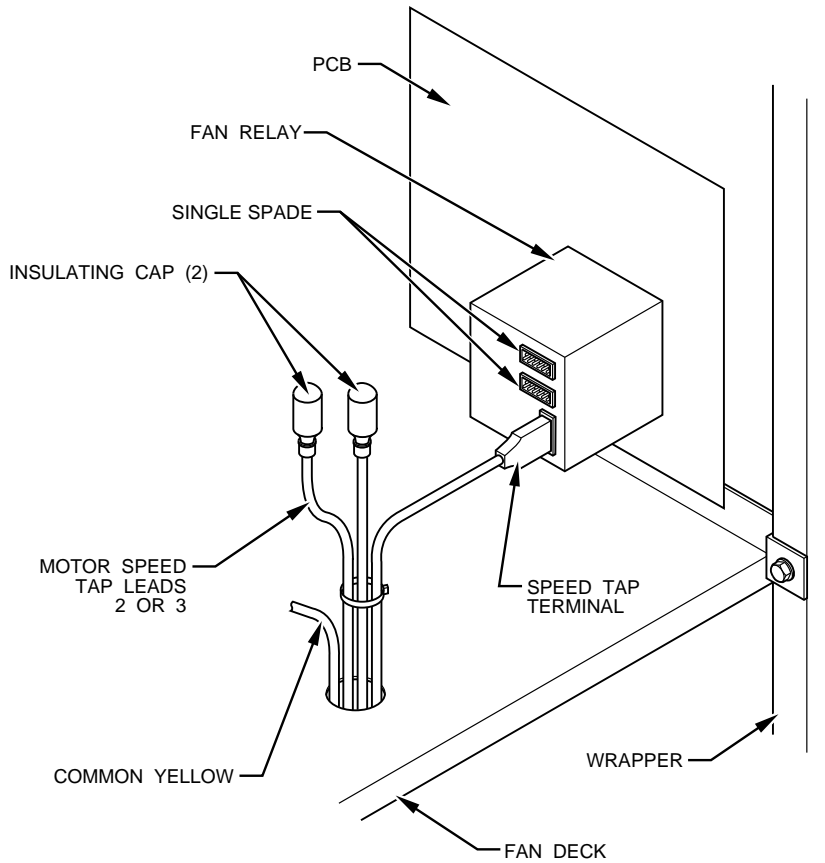

Fig. 6—Motor Speed Tap and Fan Relay
1. Speed tap selection is done at fan relay. To change motor speeds, disconnect fan lead on relay and replace with motor speed tap desired. Save insulating cap and place on motor lead that was removed from relay. (See Fig. 6.) Refer to Table 6 for further clarification of speed tap selections.